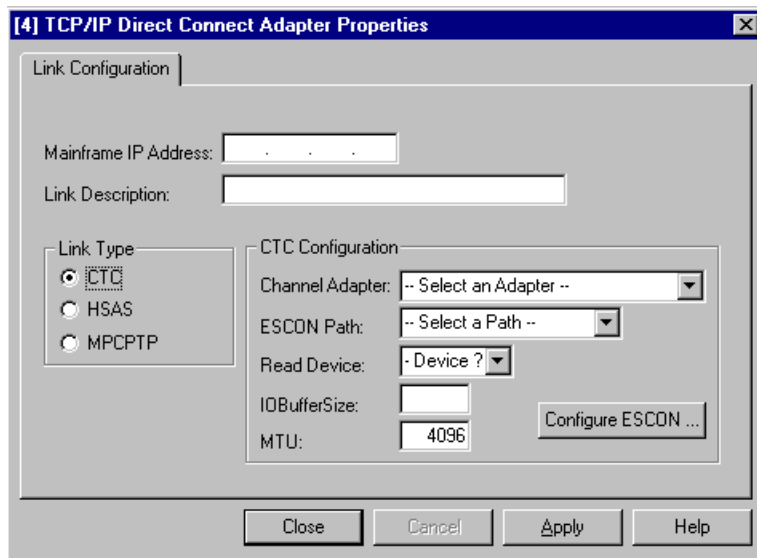

Figure 6-8. TCP/IP Direct Connect Adapter Properties
7. The TCP/IP Direct Connect Properties screen for Channel-to-Channel (CTC) link type (Figure 6-8) will display. If you are defining a MPC+ link skip forward to step 8 of this procedure.